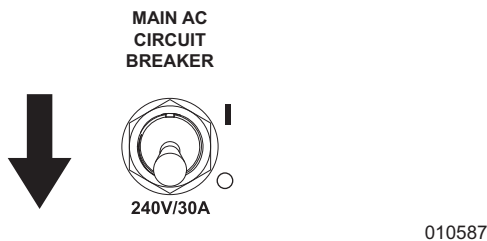

Figure 3-43. Main AC Circuit Breaker OFF (O)
- See **Figure 3-43**. Switch main AC circuit breaker to OFF (O).